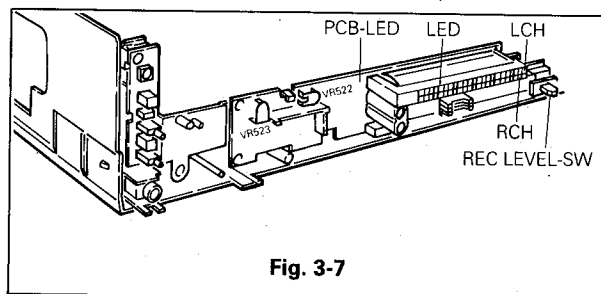

Fig. 3-7
- Adjust VR522 just until the LED-1dB on L side is ignited. (Refer to Fig. 3-7)